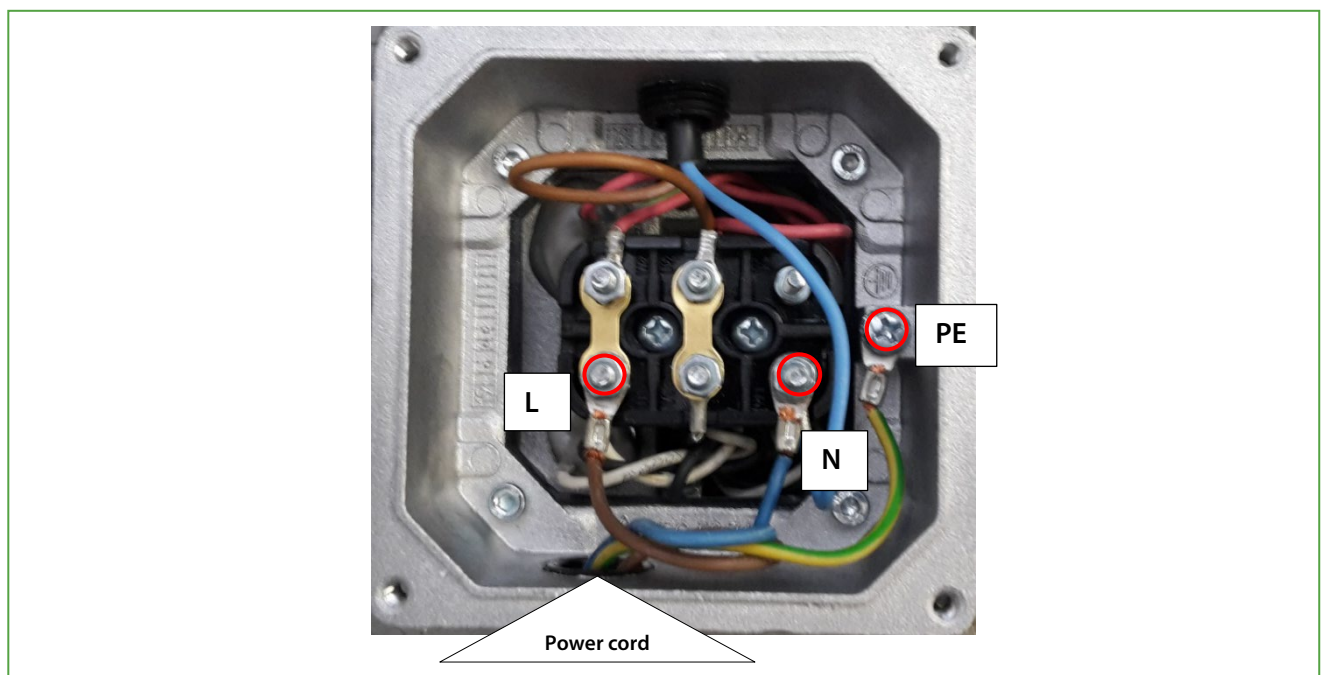

Figure 11 Electrical connection
- To connect the single wires, please refer to Figure 11.